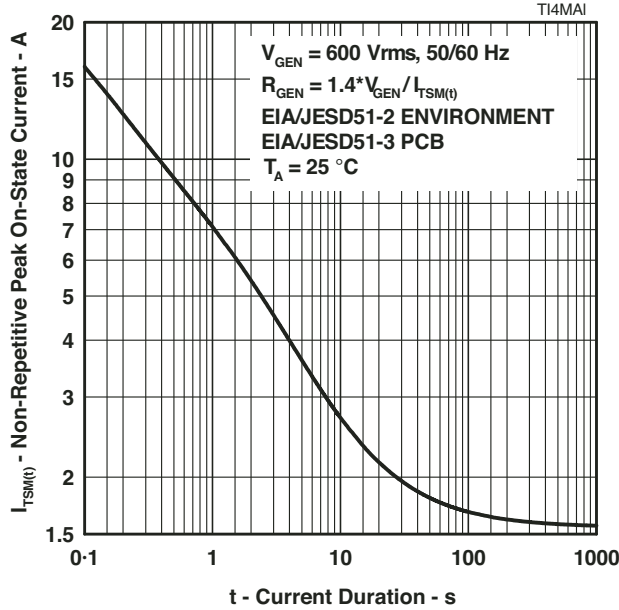

Figure 9.
5. EIA/JESD51-2 environment and EIA/JESD51-3 PCB with standard footprint dimensions connected with 5 A rated printed wiring track widths. See Figure 9 for the current ratings at other durations. Derate current values at  $-0.61\text{ \%}/\text{°C}$  for ambient temperatures above  $25\text{ °C}$ .
The protector can withstand currents applied for times not exceeding those shown in Figure 9. Currents that exceed these times must be terminated or reduced to avoid protector failure. Fuses, PTC (Positive Temperature Coefficient) thermistors and fusible resistors are over-current protection devices which can be used to reduce the current flow. Protective fuses may range from a few hundred milliamperes to one ampere. In some cases, it may be necessary to add some extra series resistance to prevent the fuse opening during impulse testing. The current versus time characteristic of the overcurrent protector must be below the line shown in Figure 9. In some cases, there may be a further time limit imposed by the test standard (e.g. UL 1459 wiring simulator failure).